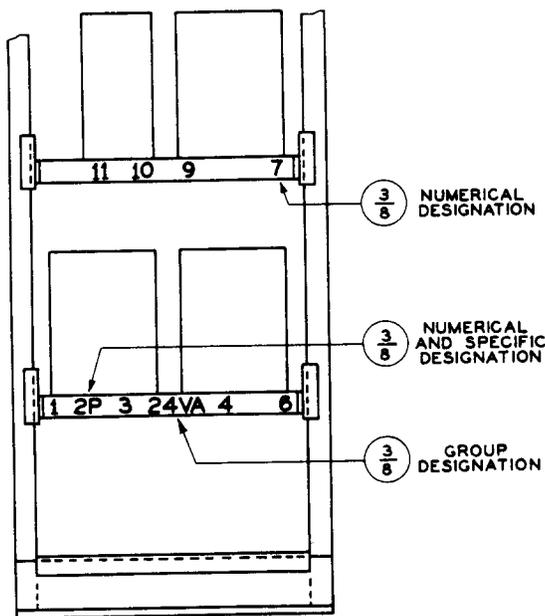

Fig. 6 - Multicell Battery Units on Relay Rack or Metal Stand
2.10 Multicell Units: Apply a numerical designation for the first and last cells in each unit and also for pilot cell. (See Fig. 6, 7, 8, and 9.)